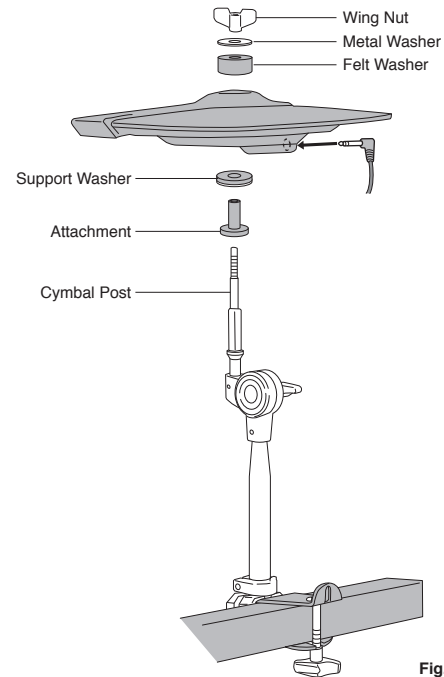

Fig.23
2. Arrange the Attachment and Support Washer in the order shown (Fig. 23).
4. Reattach the Felt and Metal Washers and the Wing Nut in the order shown (Fig. 23) and tighten the Wing Nut to your preference.